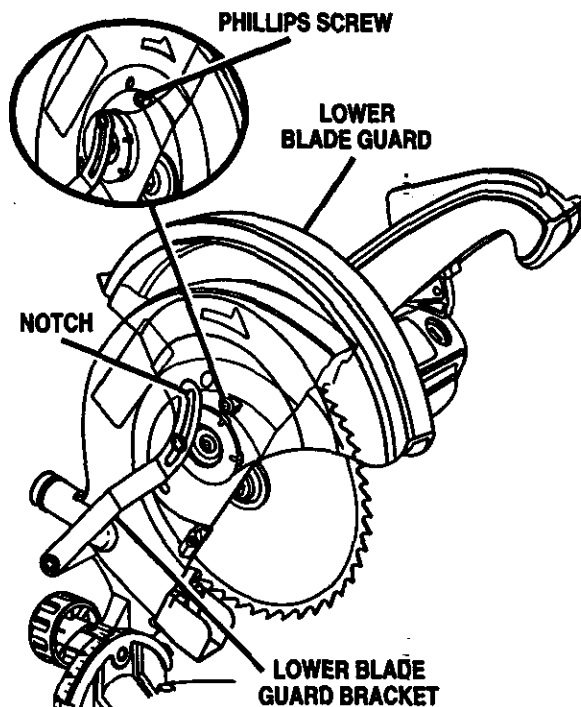

Fig. 10
See Figures 10, 11, and 12.
- Loosen the phillips screw on the blade bolt cover until blade bolt cover can be raised. See Figure 10 and 11.
- Gently raise the lower blade guard bracket, releasing lower blade guard from notch so that lower blade guard and blade bolt cover can be rotated up and back to expose the blade bolt. See Figures 10 and 11.